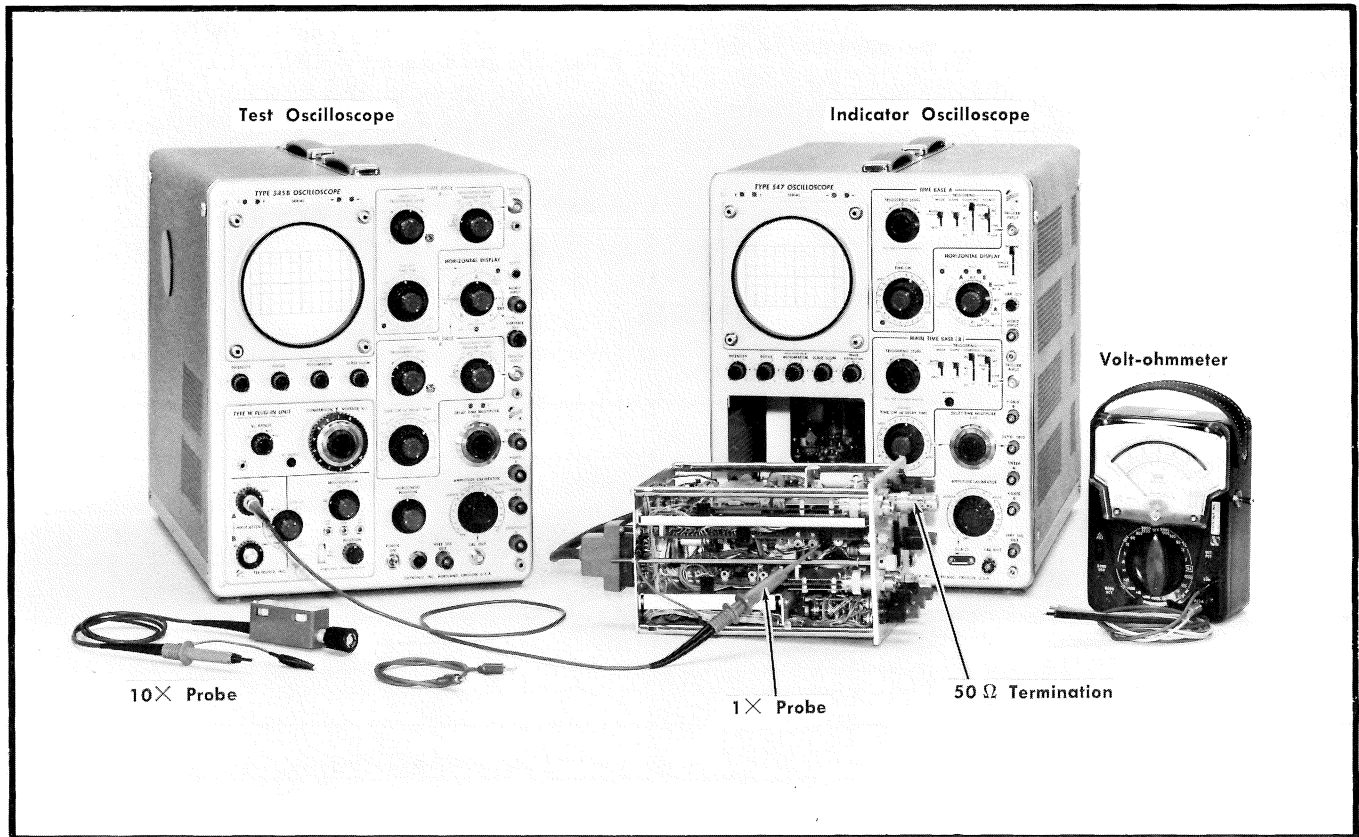
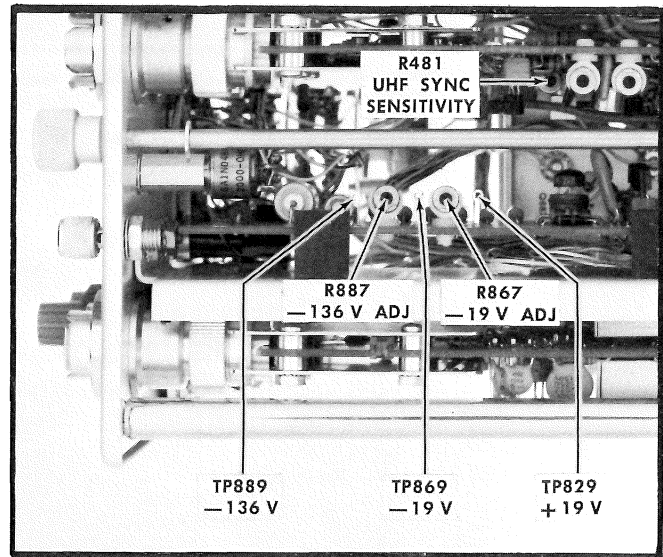

Fig. 7-4. Initial equipment setup for steps 1 through 10.
Fig. 7-5. Location of Power Supply test points, adjustments and UHF SYNC SENSITIVITY control, bottom view of Type 1S2.
- a. Use the equipment setup as shown in Fig. 7-4. Connect the 1× probe to test point TP829, +19 VOLTS. Power Supply test points and adjustments are shown in Fig. 7-5.
- c. Adjust R481, UHF SYNC SENSITIVITY, Fig. 7-5, for a change in test oscilloscope peak period as the UHF SYNC OR TRIGGER SENS control is turned from the counterclockwise stop.